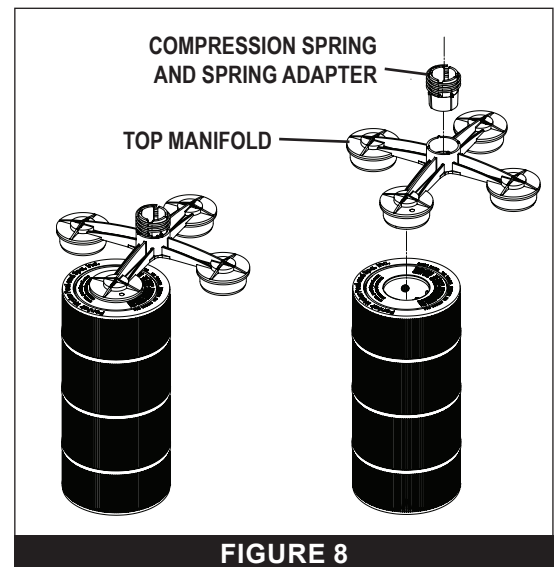

FIGURE 8
4. Remove the Top Manifold from the filter cartridges and lay the manifold aside. See **FIGURE 8**.
3. Remove the top manifold from the filter cartridges and lay the manifold aside. See **FIGURE 8** on page 8.